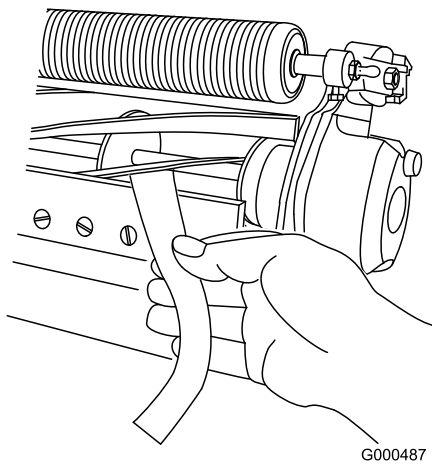

Figure 47
11. Test the cutting performance by inserting a long strip of cutting performance paper (Toro part number 125-5610) between the reel and bedknife, perpendicular to the bedknife (Figure 47). Slowly rotate the reel forward; it should cut paper